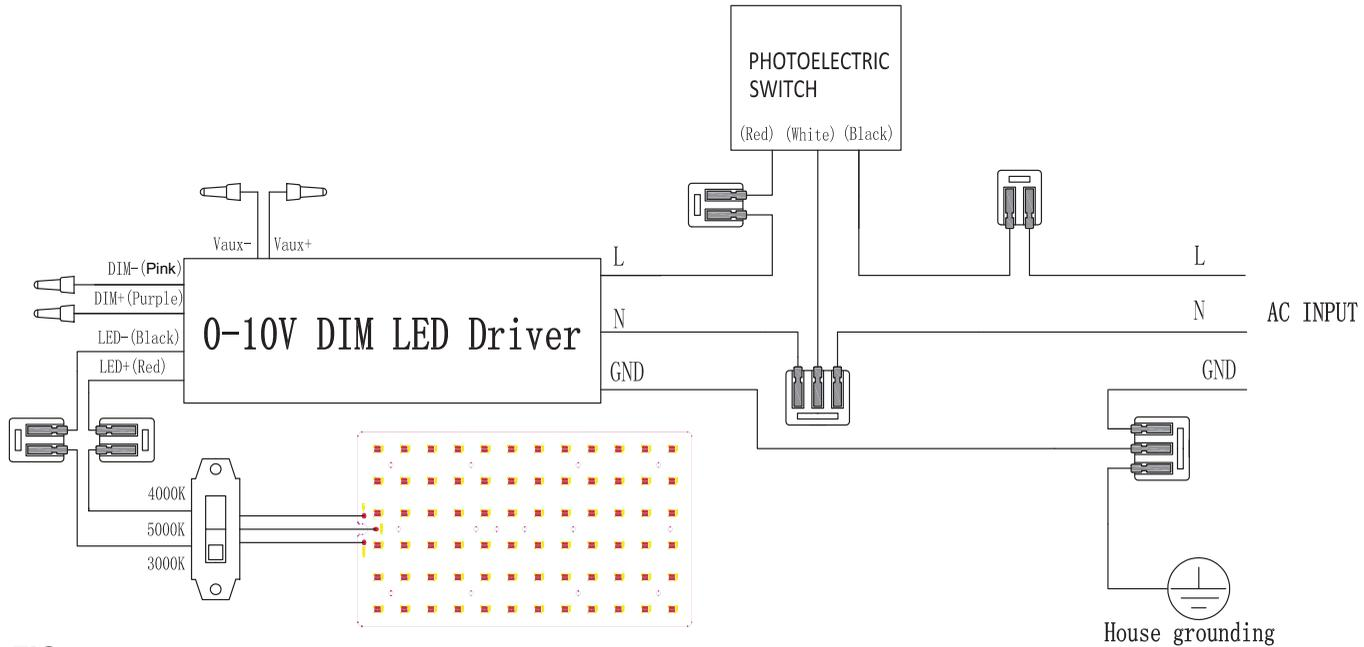

FIG. 24
2. FIG. 24 is for wirings when photocell sensor is used.